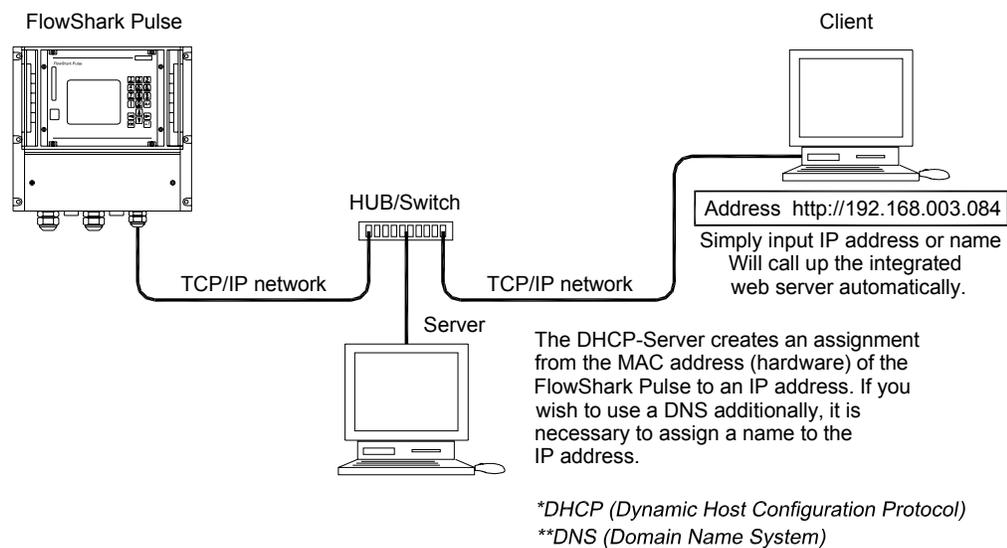

Figure 6-46 Communication with a server
- Network server connection via DHCP (Dynamic Host Configuration Protocol) and/or DNS (Domain Name Server) – See Figure 6-46.